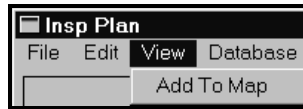

Figure 3-88. Plans > View Menu
As shown in Figure 3-88, the View menu contains one (1) choice - Add To Map.